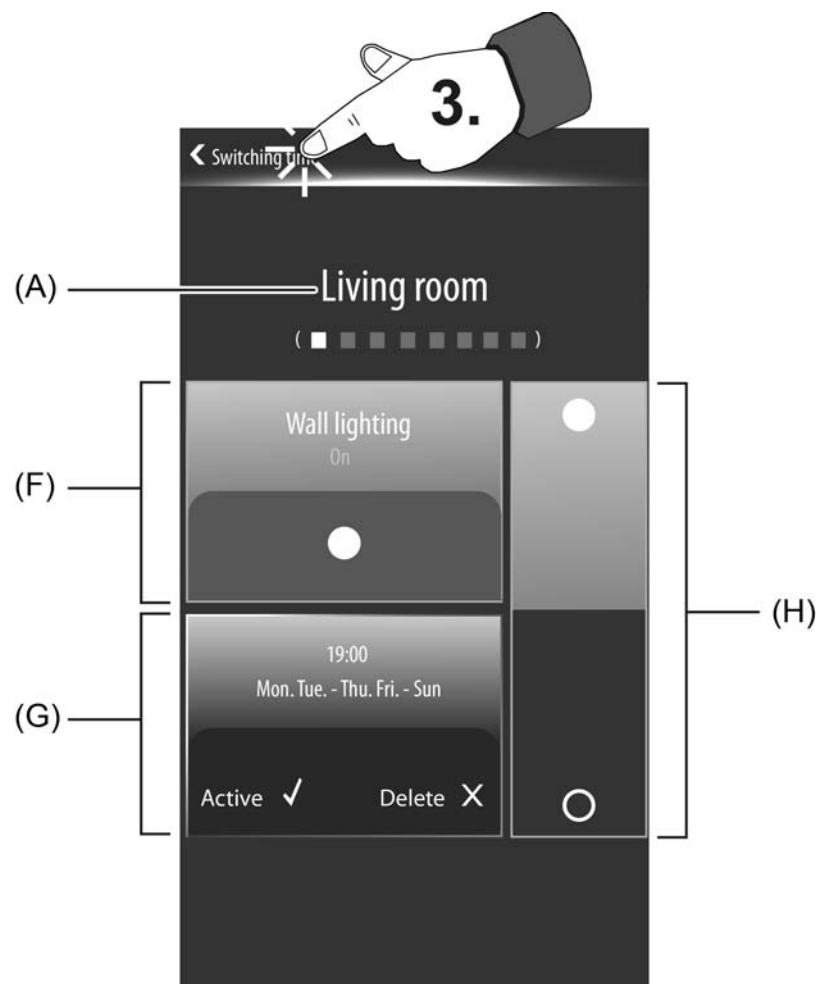

Figure 105: Example of a submenu for the configuration of a switching time (here: Channel function Switching)
If you touch a sensor surface with your finger in the overview of all switching times, the device branches to the submenu of the switching time that was selected. The submenu can be used to change, activate, deactivate or delete switching times. The submenus of each switching time have different operating and display areas (figure 105).
On the bottom edge in the display area (G) of a switching time submenu, the "Delete" button is visible (figure 105). The delete mode of a switching time is selected by touching this button (Display: ✓). The switching time is first deleted, however, when the "Save ✓" icon in the status line of the submenu at the top edge of the display is pressed. The configurations for the switching time concerned are discarded and the allocation of channels are removed by the deletion.